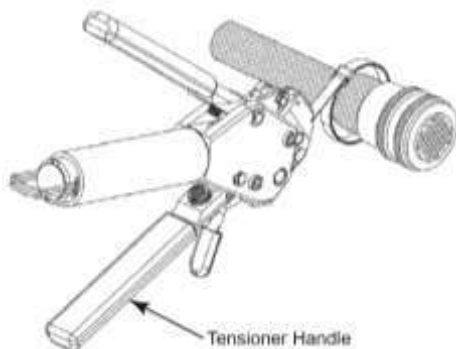

Figure 29
- c. Repeatedly squeeze tensioner handle until the band starts to tighten (Figure 29) around the assembly. As the band tightens with each stroke of the tensioner handle, use abbreviated strokes (half strokes) until the band is tight against the braided cable.